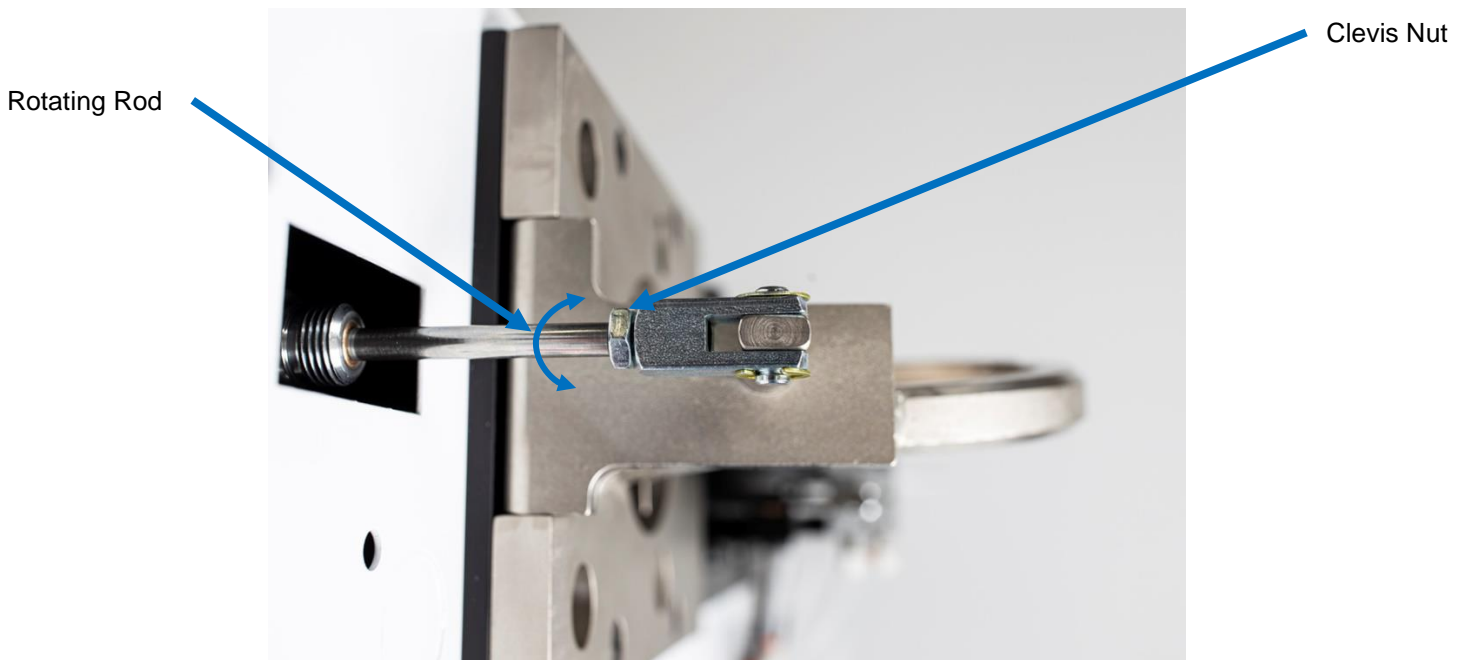

Figure 2.2.3 Setting the Ring Position
- To properly set the ring position, loosen the nut on the ring cylinder rod next to the clevis attached to the ring as shown in Figure 2.2.3. Once loose, turn the rod of the cylinder to move the clevis either farther out (to move the ring clamp closer together) or farther in (to move the ring clamp farther apart) to set the ring position. Once the rod is adjusted to the proper placement, tighten the nut back up to the clevis to prevent the rod from moving during machine operation.